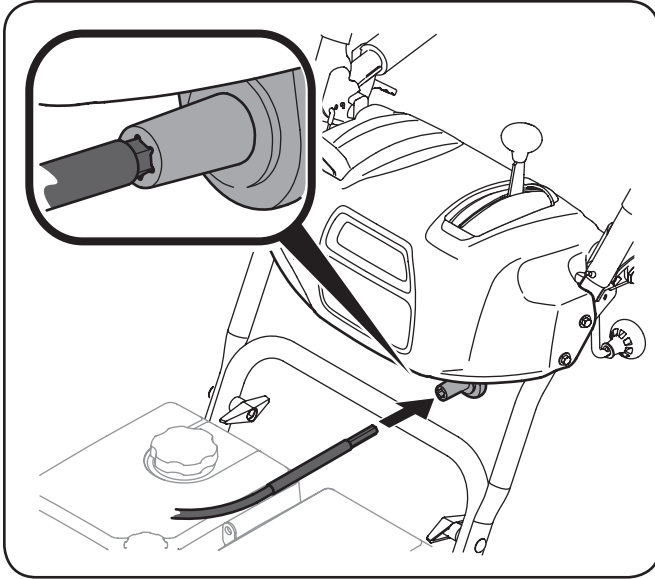

Figure 3-8
6. Insert the flex shaft into the chute control rod coupling under the dash panel. See Figure 3-8.